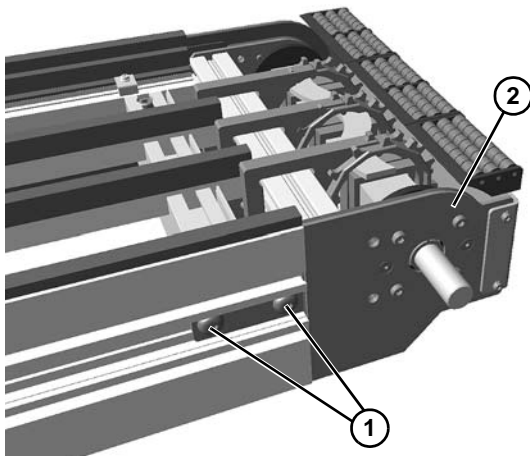

Figure 61
2. Loosen two socket head screws (**Figure 61, item 1**) on each side of drive roller transfer tail assembly (**Figure 61, item 2**).